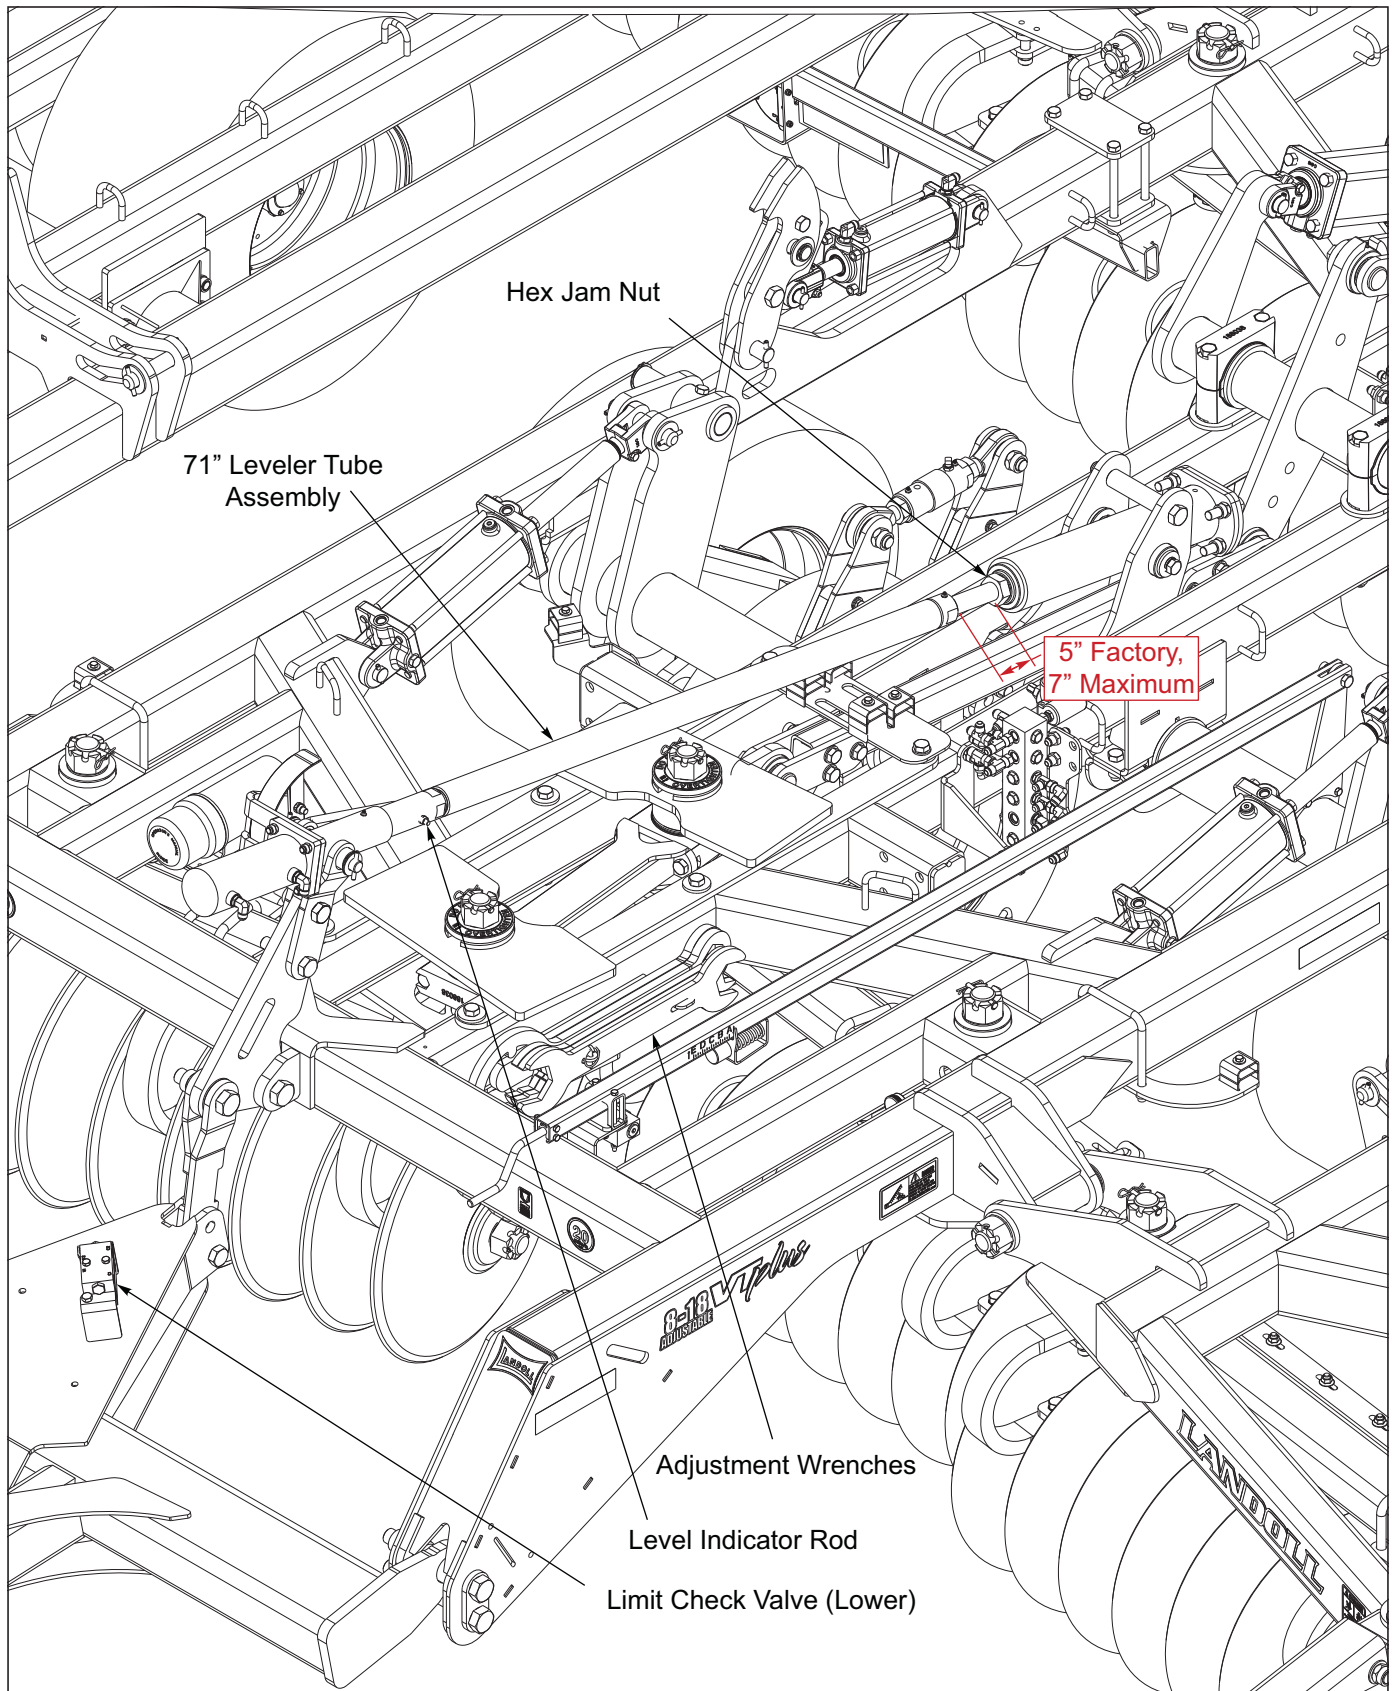

Figure 4-10: Hydraulic Leveler Adjustment
2. Remove the level indicator rod from the leveler tube **See Figure 4-10** and **"Leveler Assembly" on page 3-8**.